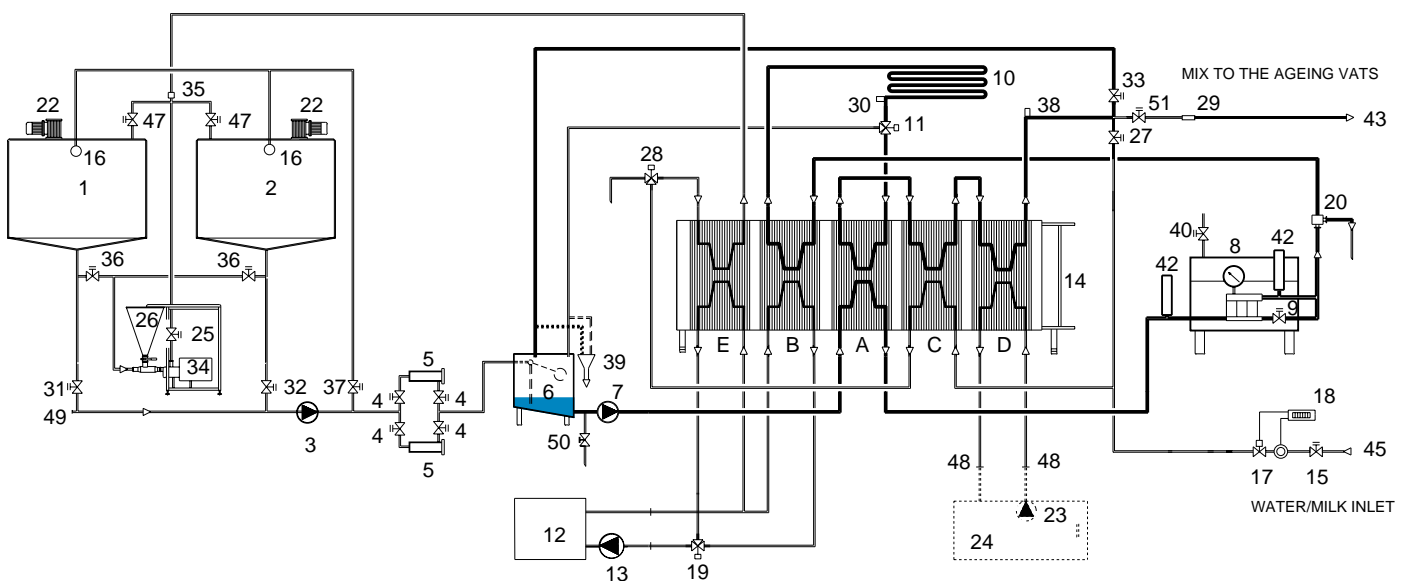

Fig. 7.2
9. When the solution, which has been heated by the boiler water (Section B), reaches the set temperature, the red light will go out, the green light will light-up and valve (11) will switch over. The solution continues to the remaining sections of the heat exchanger, to then return to the constant level tank (6) through valve (33) and the second bypass pipe (see Fig. 7.2).